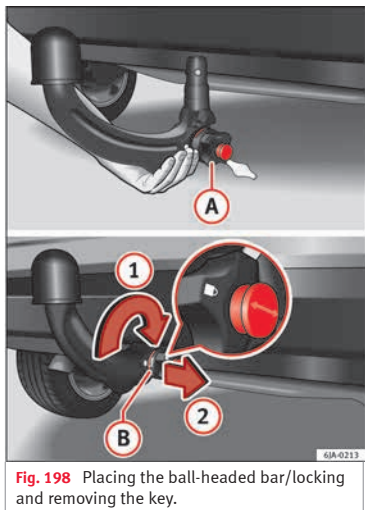

Fig. 198 Placing the ball-headed bar/locking and removing the key.
– Hold the ball-headed bar from underneath » **Fig. 198** and push it into the clamping bush as far as possible until you hear it click into place » **△**.